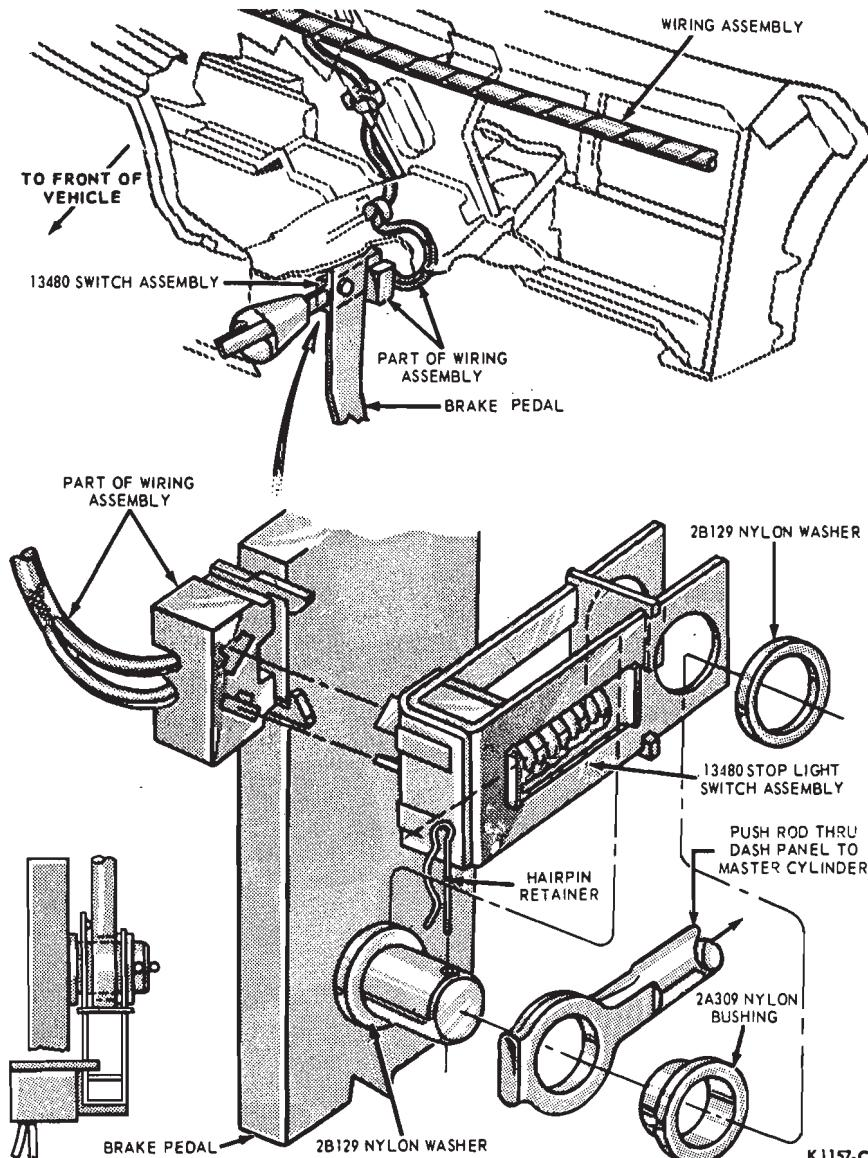

FIG. 2—Typical Stop Light Switch Installation
the switch (Fig. 2).
3. Position the switch, push rod, and bushing and washers on the brake pedal pin, as shown in Fig. 2, and install the hairpin retainer.
4. Connect the wires at the connector, and install the wires in the retaining clip (Fig. 2).